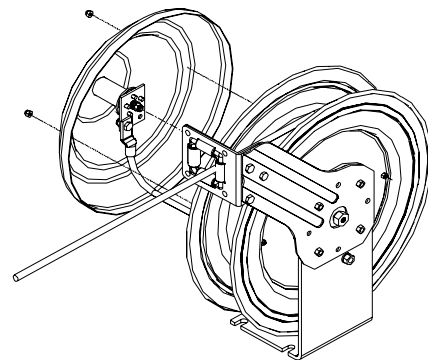

Fig 4.0 (P-WC Reel)
- Remove input cable from reel. Remove cover. (See figure 4.0)
- Remove input cable from reel. Remove cover. See figure 4.0